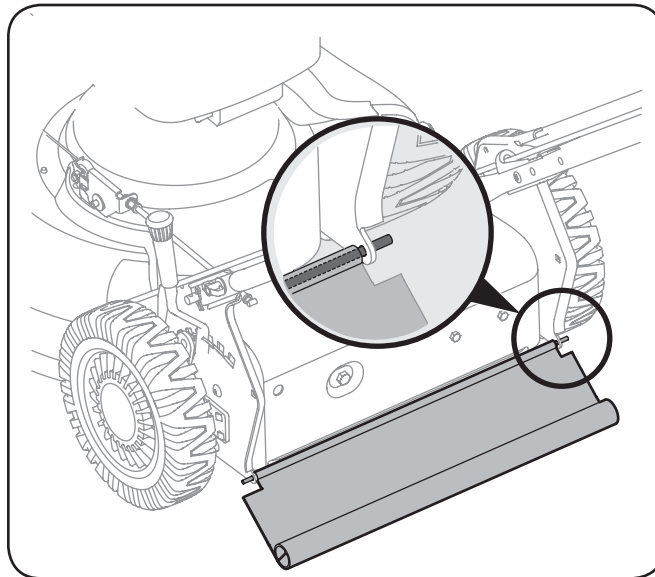

Figure 6-2
1. Cut off the flat end of the wire rod which secures it to the deck. See Fig. 6-2.